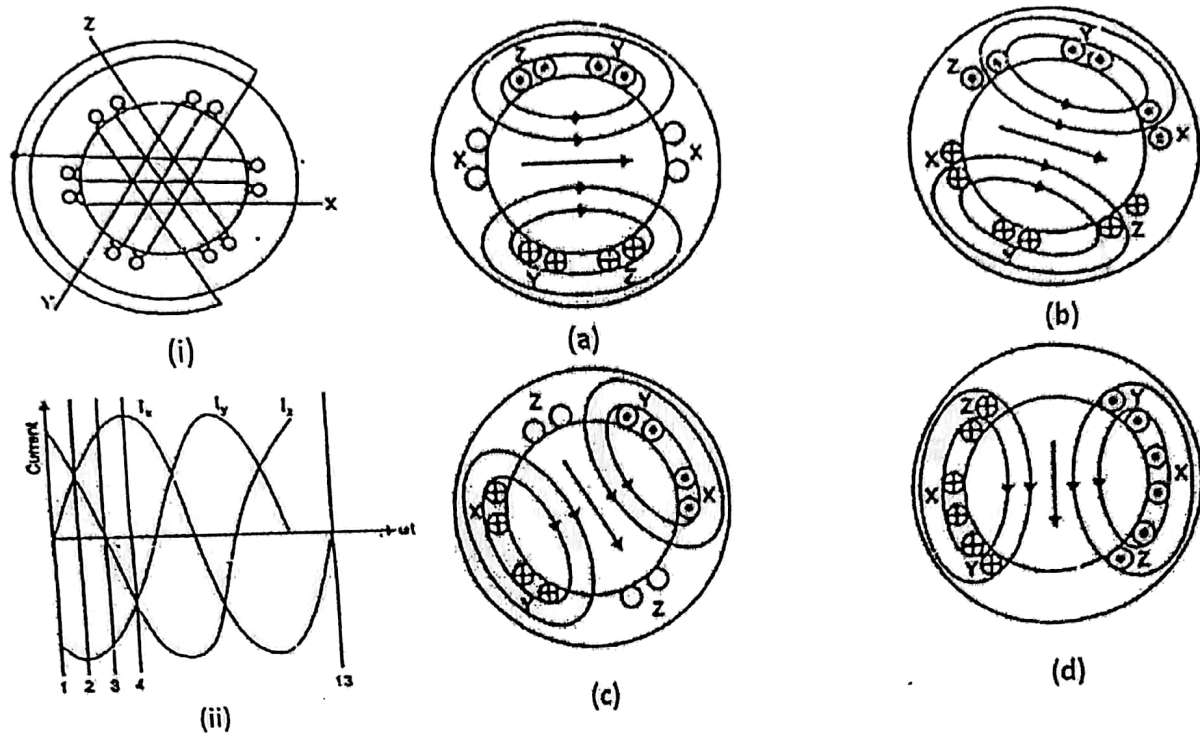

Figure 1
To see how rotating field is produced, consider a 2-pole, 3-phase winding as shown in Figure.1 (a). The three phases X, Y and Z are energized from a 3-phase source and currents in these phases are indicated as  $I_x$ ,  $I_y$  and  $I_z$  [See Figure. 1(b)]. Refer to Figure. 1(b), the fluxes produced by these currents are given by:
- At instant 1 [See Figure 1(a) and 2(a)], the current in phase X is zero and currents in phases Y and Z are equal and opposite. The currents are flowing outward in the top conductors and inward in the bottom conductors. This establishes a resultant flux towards right. The magnitude of the resultant flux is constant and is equal to  $1.5 \phi_m$  as proved under:
- At instant 2 [Figure 1(b) and 2(b)], the current is maximum (negative) in  $\phi_y$  phase Y and 0.5 maximum (positive) in phases X and Z. The magnitude of resultant flux is  $1.5 \phi_m$  as proved under: At instant 2,  $\omega t = 30^\circ$ . Therefore, the three fluxes are given by;
- At instant 3 [Figure 1(c) and 2(c)], current in phase Z is zero and the currents in phases X and Y are equal and opposite (currents in phases X and Y are  $0.866 \times \text{max. value}$ ). The magnitude of resultant flux is constant ( $1.5 \phi_m$ ) as proved under:
- At instant 4 [Figure 1(d) and 2(d)], the current in phase X is maximum (positive) and the currents in phases V and Z are equal and negative (currents in phases V and Z are  $0.5 \times$  max. value). This establishes a resultant flux downward as shown under:
The speed at which the rotating magnetic field revolves is called the synchronous speed ( $N_s$ ). Referring to Figure 1(d) the time instant 4 represents the completion of one-quarter cycle of alternating current  $i_x$  from the time instant 1. During this one quarter cycle, the field has rotated through  $90^\circ$ . At a time instant represented by 13 [Figure 1(ii)] or one complete cycle of current  $i_x$  from the origin, the field has completed one revolution. Therefore, for a 2-pole stator winding, the field makes one revolution in one cycle of current.